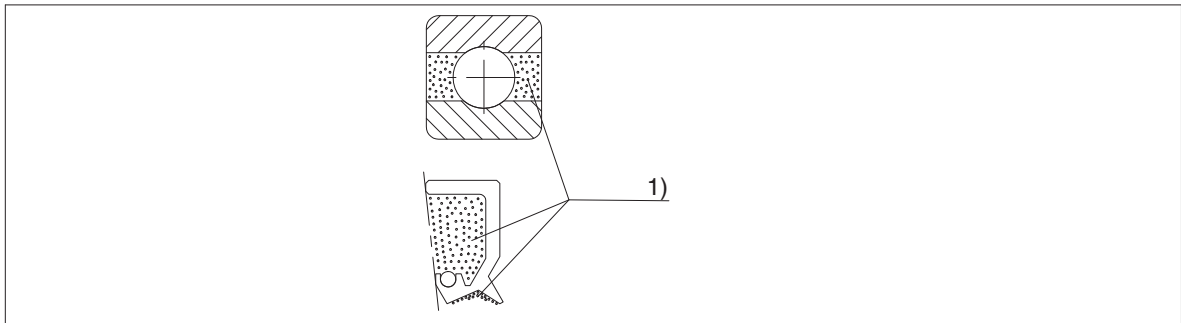

Fig. 18: Filling the rolling bearings and the shaft-sealing rings with grease
- Grease the O-ring (114) lightly to assist assembly.
- Apply grease to both sides of the rolling bearings (109, 134) (for approved grease types, see table 11). Do not apply additional grease to the rooms between the rolling bearings (see figure 18).
- The shaft-sealing rings (111, 132, 183, 193, 199) are fitted with a grease filling between the dust and sealing lips (see figure 18).